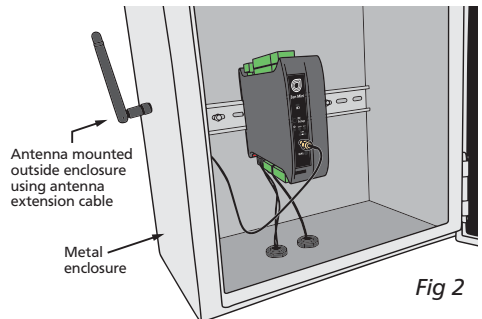

Fig 2
### B - Metal Enclosure (Fig 2)
- A Installing the unit in an earthed **Metal Enclosure** (as in Fig 2). This is particularly useful if the control box is mounted close to large power switching devices like contactors. Every switching cycle there is a possibility of generating a large amount of near field radiated noise. The **Metal Enclosure**, acting as a faraday cage, will shunt this radiation to ground and away from the unit.